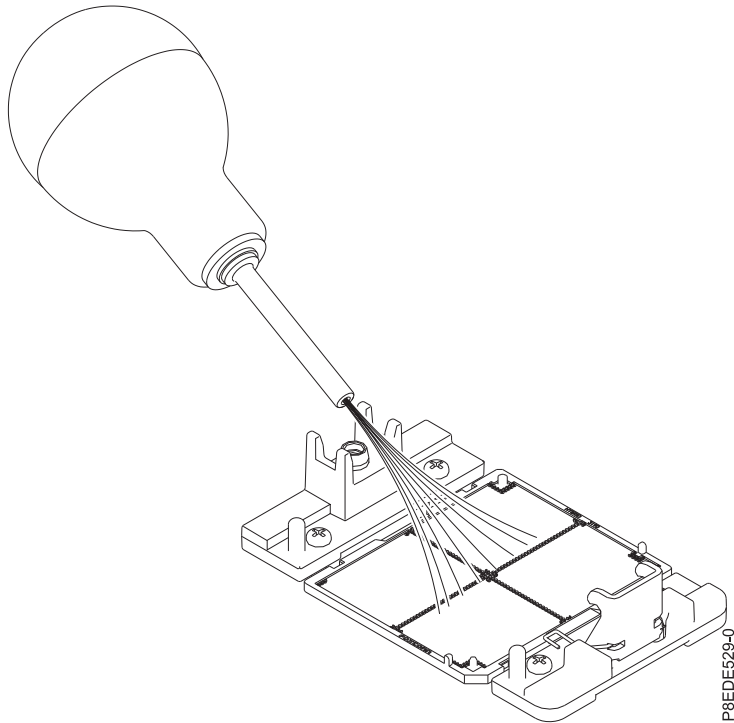

Figure 98. Removing dust and debris from the system processor socket
- a. If dust or debris is present on the system processor socket, use the supplied air pump (part number 45D2645) to clean the socket. Blow small bursts of air from the center toward the sides of the socket, as shown Figure 98 on page 87.